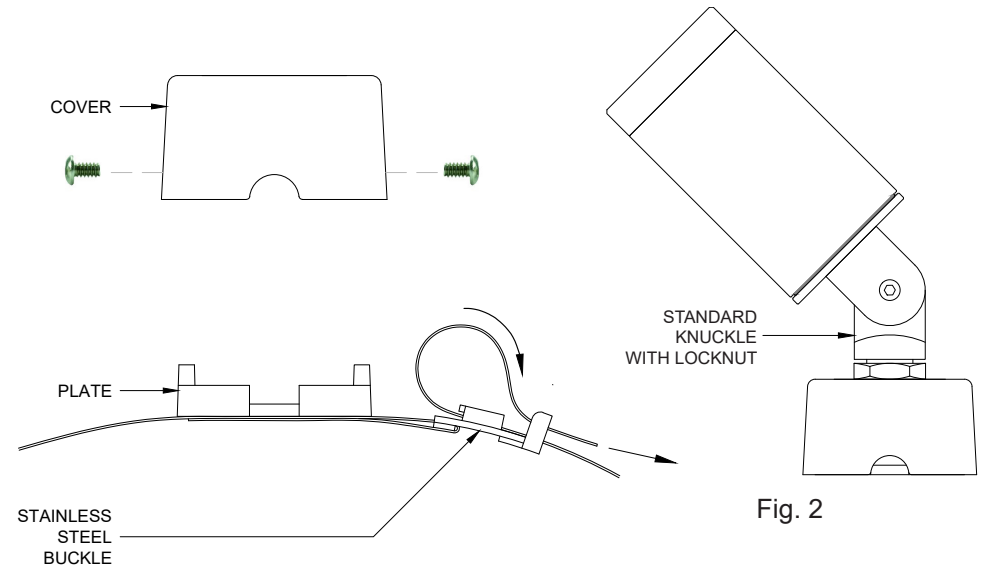

Fig. 2
5. For standard knuckle fixtures where a brass locknut is used, place locknut on male thread and continue to thread up to about 1/16" (1.5mm) from knuckle base. Feed fixture wires through hole in Cover and rotate knuckle / fixture assembly into the Cover until contact with the locknut is made. Make sure 1/16" gap is maintained. (Figure 2)